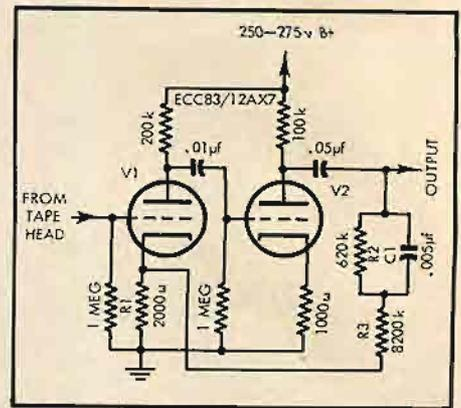

Fig. 1. Schematic of tape-head preamp providing NAB equalization.
A. Figure 1 shows the circuit you ask for. At very low frequencies (below 50 cps), virtually no negative feedback exists between the plate of  $V_2$  and the cathode of  $V_1$ , because there is about 630k resistance ( $R_2$  plus  $R_3$ ) between these points;  $R_2$  is virtually unbypassed by  $C_1$  (0.005  $\mu$ f) because at the very low frequencies the impedance of  $C_1$  is much greater than the value of  $R_2$  (620k). But the impedance of  $C_1$  becomes equal to  $R_2$  at approximately 50 cps, so that feedback begins to increase appreciably at this frequency due to the bypassing action of  $C_1$ . Response is down 3 db at 50 cps due to increased feedback. As frequency rises, the impedance of  $C_1$  becomes proportionately less, resulting in greater feedback and further reduction in response. However, the fall in response due to the bypassing action of  $C_1$  cannot go on forever, because  $R_2$  and  $R_3$  are also in the feedback circuit, preventing the feedback voltage from dropping to zero. The impedance of  $C_1$  becomes equal to